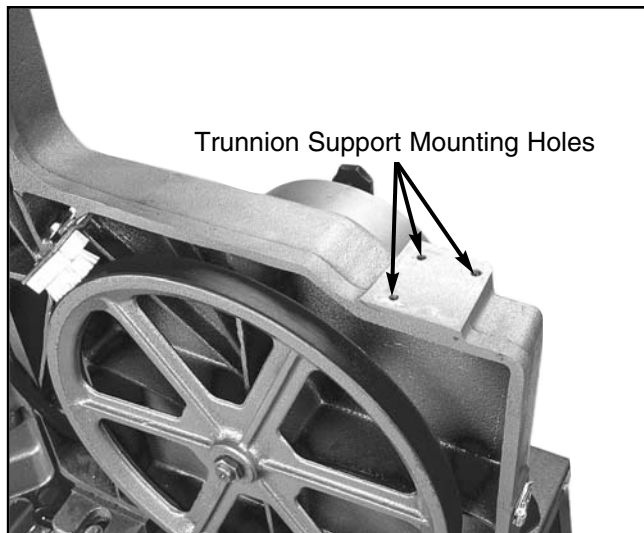

Figure 11. Trunnions removed from bandsaw.
1. Remove the three table bracket mounting bolts from the bandsaw body. **Figure 11** shows them removed.